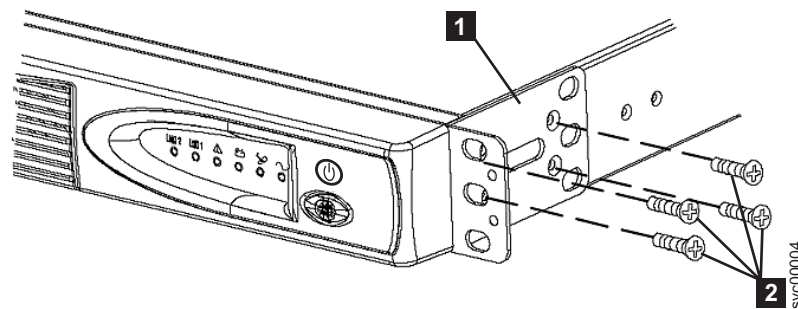

Figure 278. Installing the support rails for a 2145-1U uninterruptible power supply into the rack
3. Attach the long side of a mounting bracket **1** to each side of the 2145-1U uninterruptible power supply using four M3 × 6 screws **2** for each bracket, as shown in Figure 278.